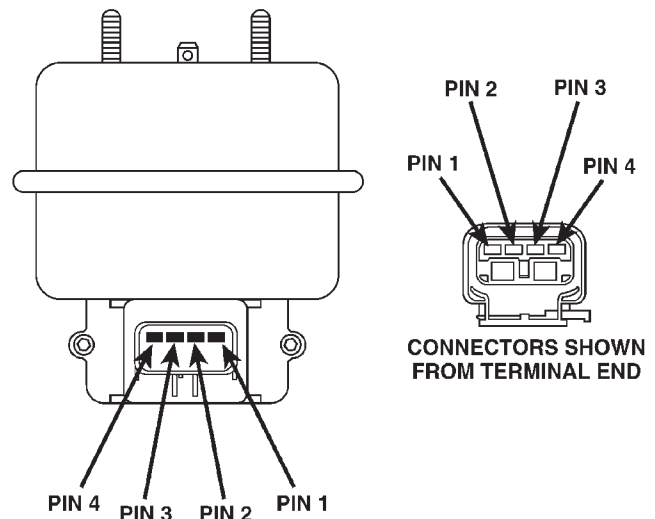

Fig. 1 Servo 4-Way Harness Connector
(1) Start engine.
(2) Disconnect 4-way electrical connector at servo.
(3) Turn speed control switch to ON position.
(4) Check for battery voltage at pin-3 of wiring harness 4-way connector (Fig. 1). This is the 12 volt feed from the stoplamp switch. When the brake pedal is depressed, voltage should not be present at pin-3. If voltage is not present with brake pedal **not** depressed, check for continuity between servo and